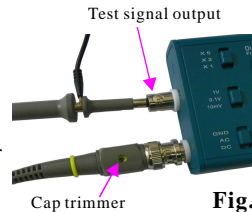
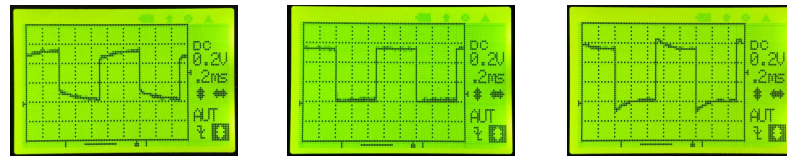

Fig. 5
Fig. 6
- 3) Set timebase to 0.2ms and sensitivity to 0.2V (see Fig. 6).
- 4) Place probe tip onto the central conductor of test signal connector (Fig. 5). Adjust trigger level if display is not stable.
- 5) Adjust the cap trimmer at probe connector with small screw driver (see Fig. 5) so a sharp rectangle waveform is displayed (middle screen of Fig. 6).